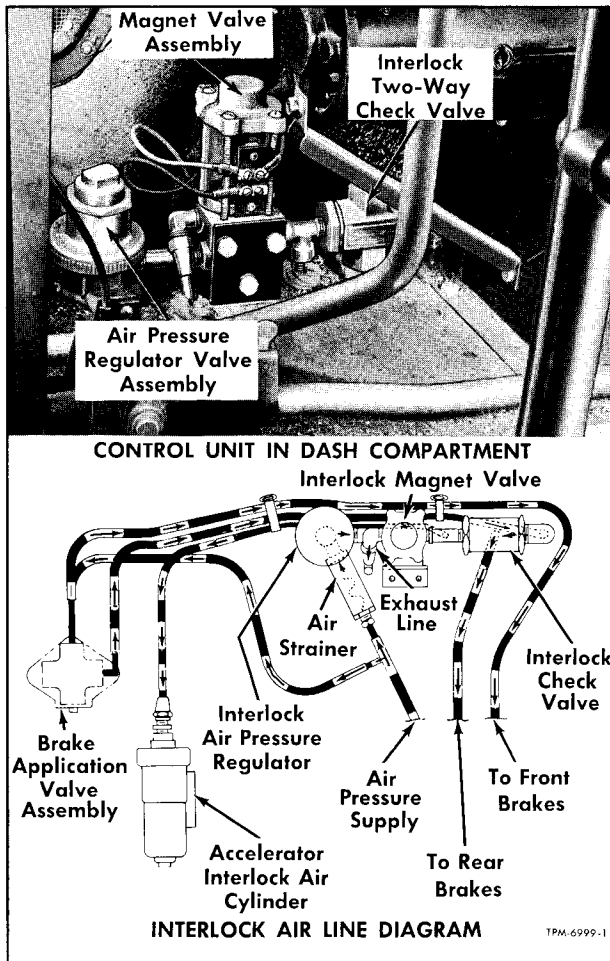
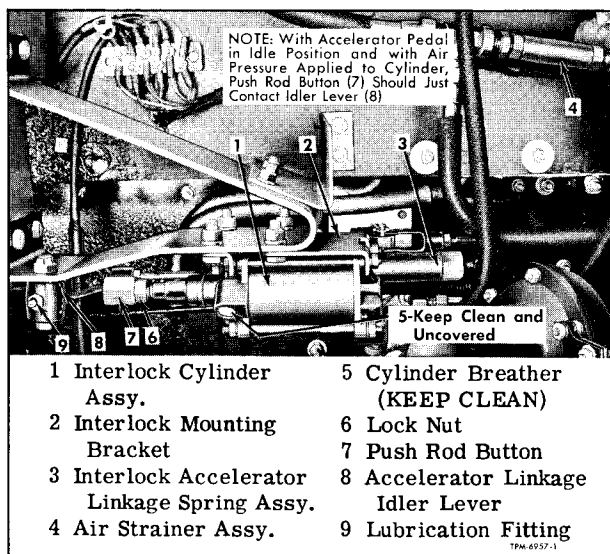
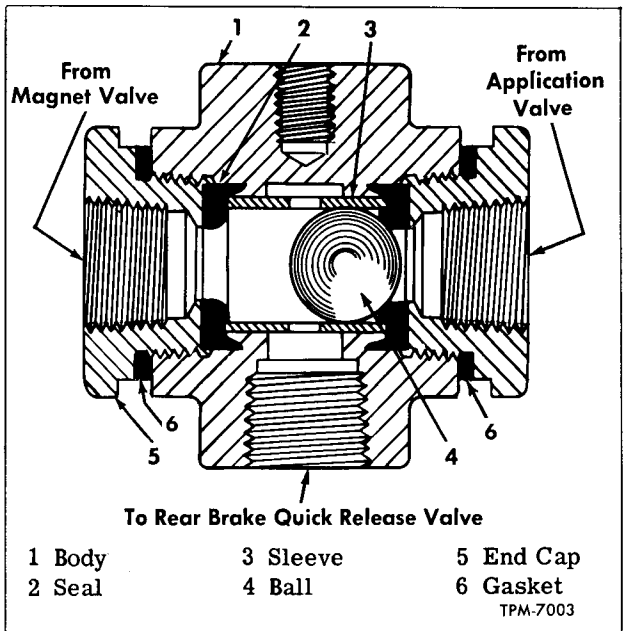

Figure 15—Brake and Accelerator Interlock Mechanism and Air Lines Installed In Dash Compartment
Figure 16—Accelerator Interlock Linkage
Figure 18—Interlock Double Check Valve
The brake interlock consists of door switches and wiring, air strainer, pressure regulating valve, interlock magnet valve, and double check valve (fig. 15).
Interlock functions to prevent engine exceeding idling speed when rear doors are unlocked. Interlock air cylinder (fig. 16) is supplied with full reservoir air pressure through interlock magnet valve (fig. 15). A single magnet valve supplies air pressure to both brake and accelerator interlocks. Accelerator interlock air cylinder is mechanically connected to accelerator control rod when air pressure is applied to cylinder.
Linkage at front of coach is accessible from underneath coach (fig. 16). When door control valve is placed in any door unlocked or open position,
c. Button (7, fig. 16) just contacts accelerator idler lever (8, fig. 16).
If adjustment is necessary, loosen lock nut (6, fig. 16) and reposition push rod button (7, fig. 16). After making adjustment tighten lock nut firmly.
Brake interlock double check valve (fig. 18) is installed in air system as shown in figures 24, 25, and 26. Purpose of valve is to direct flow of air pressure from either brake application valve or brake interlock magnet valve into air line leading to rear brake valve. Figure 15 shows valve installed in dash compartment.
OPERATION (Fig. 18)
TEST (Fig. 18)
INSPECTION (Fig. 18)
ASSEMBLY (Fig. 18)
NOTE: Refer to figure 15.